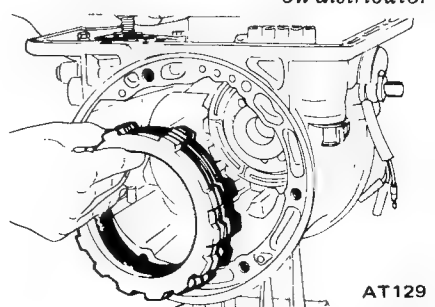

Fig. AT-63 Removing drive and driven plates
17. Pry off snap ring using a pair of pliers. Remove retaining plate, drive plate, driven plate and dish plate in this written order. See Figure AT-63.